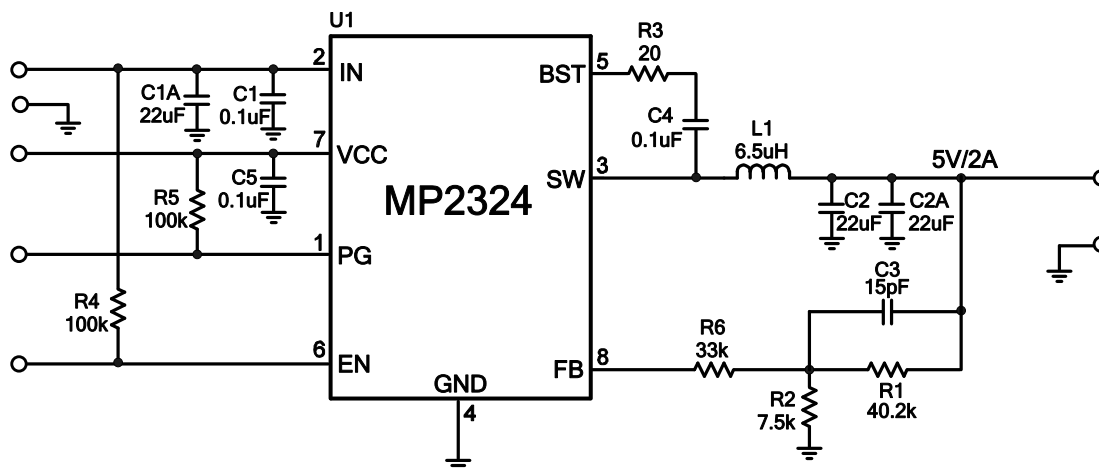

Figure 8: $V_o=5V$, $I_o=2A$
- 6) The recommended layout is based on the Figure 8 Typical Application circuit on the next page.
The detailed application schematics are shown in Figures 8 through 13. The typical performance and circuit waveforms have been shown in the Typical Performance Characteristics section. For more device applications, please refer to the related Evaluation Board Datasheets.